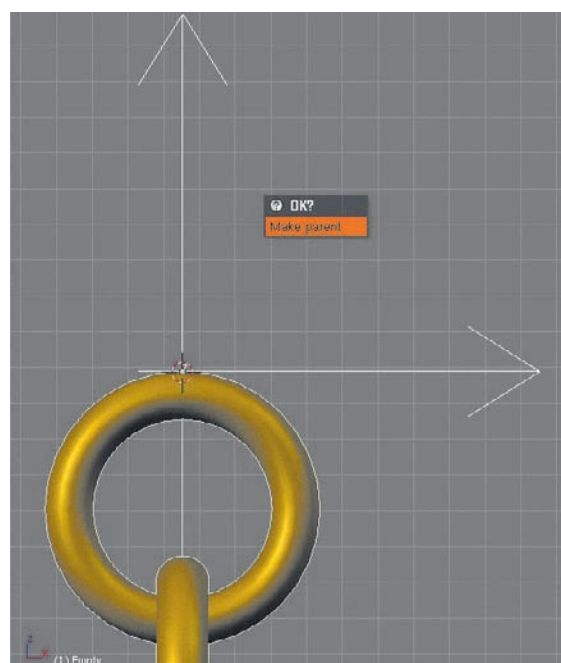

Figure 3.39 Parenting the curve and chain to an empty
9. You'll add an empty to make it easier to control and animate the chain. Snap the cursor to the top control point, tab into Object mode, and add an empty by pressing the spacebar and choosing Add > Empty. Shift-select the curve, the chain object, and the empty (in that order), and parent the curve and chain to the empty by pressing Ctrl+P, as shown in Figure 3.39.